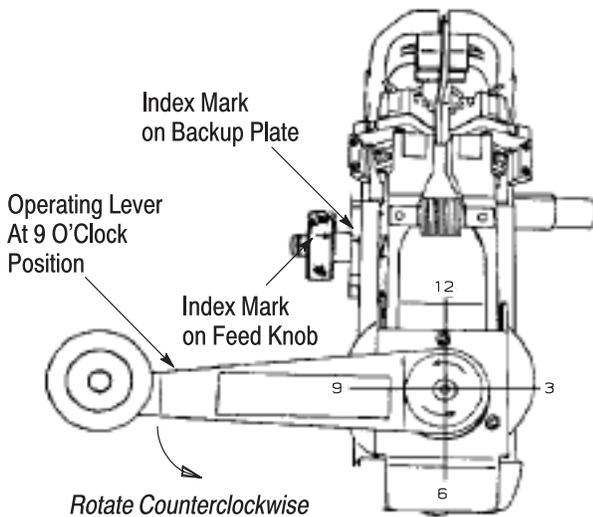

Figure 3
5. Turn the feed knob *counterclockwise* until the index mark on the feed knob aligns with the index mark on the backup plate. See Figure 3.